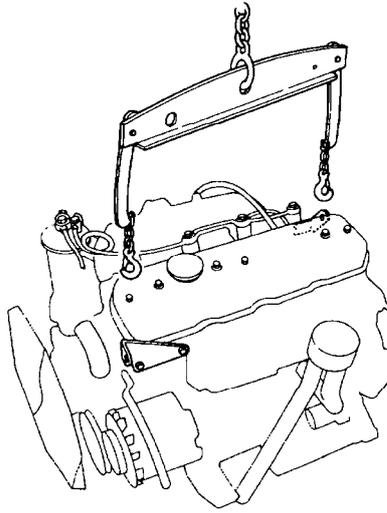

Figure 59 Attaching the Lifting Equipment
- b. Position the overhead lifting equipment above the engine (Figure 59), secure the chains to the engine lifting brackets, take up the weight of the engine with the overhead lifting equipment and remove the engine from the overhaul stand.